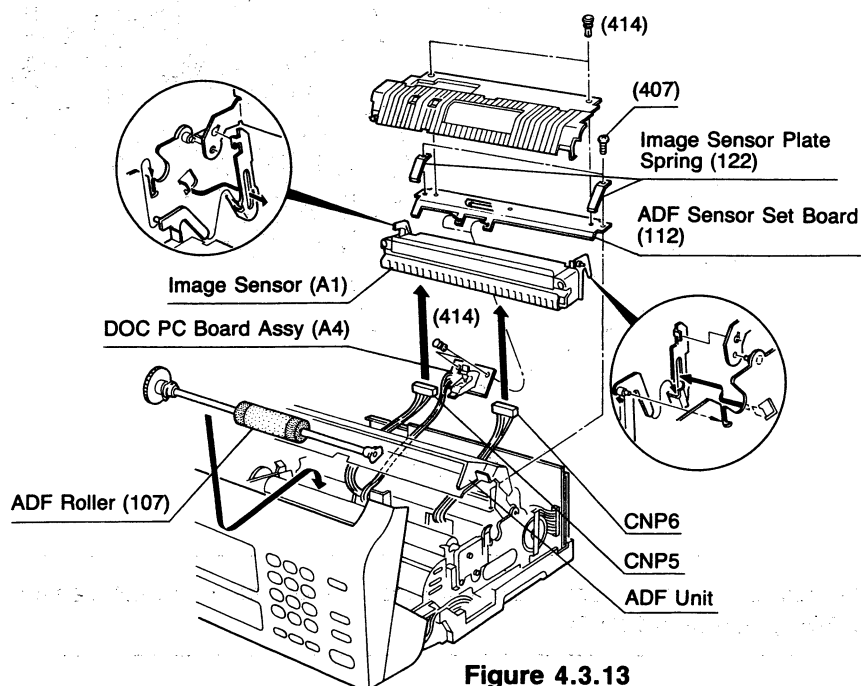

Figure 4.3.13
- (1) Remove the image sensor (A1). (See Figure 4.3.13.)
- (2) Clean the optical source part and read-out part of image sensor (A1) with the soft cloth soaked with ethyl alcohol as shown in the illustration below.